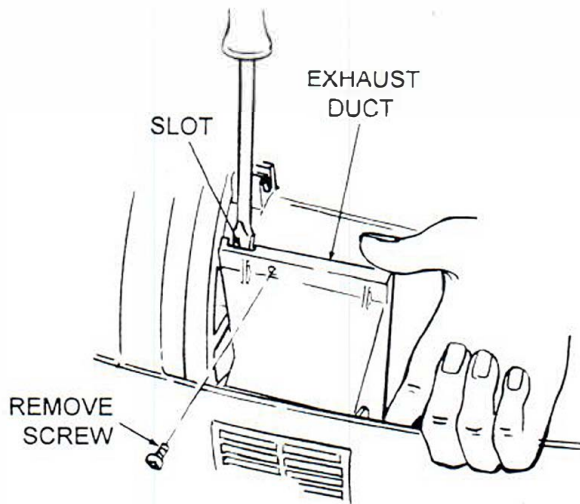

Figure 23. Exhaust Duct and Grill Removal
- D. *See Figure 23.* Remove exhaust duct screw. Then place flat bladed screw driver in slot. While prying exhaust duct away from motor, lift from underneath to remove.